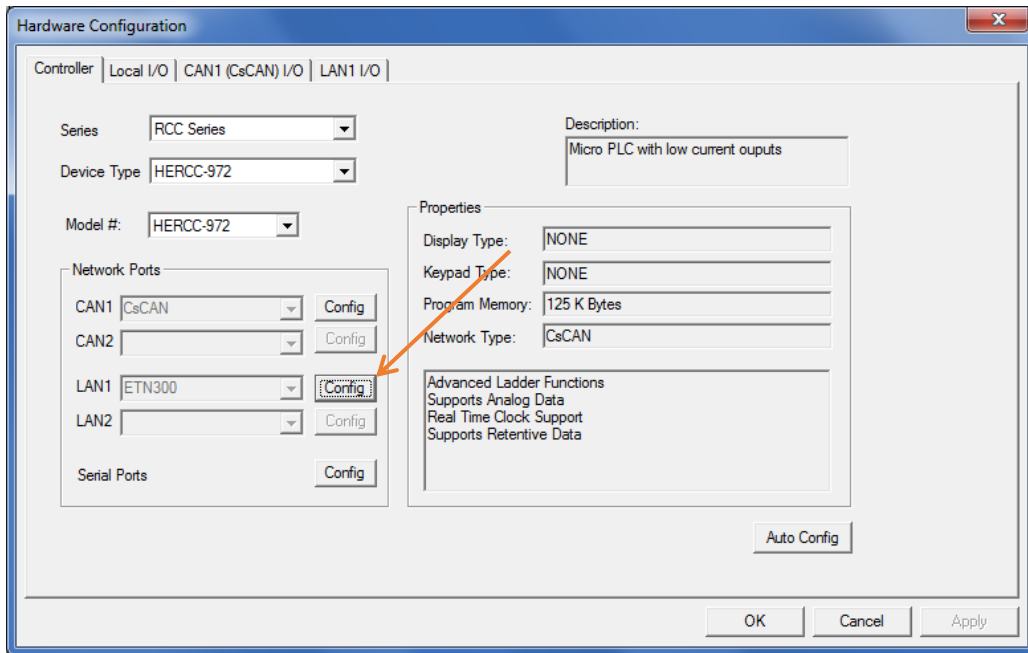

Figure 7.1 - Hardware Configuration Dialog
1. On the main Cscape screen, select the **Controller** menu and its **Hardware Configure** sub-menu to open the Hardware Configuration dialog (Figure 7.1).